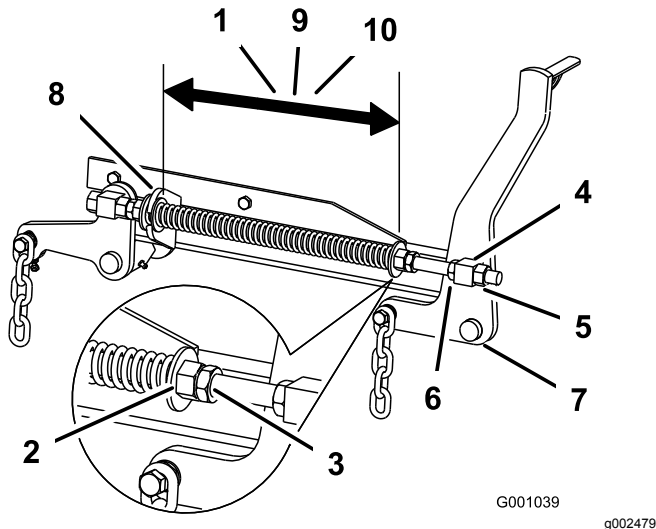

Figure 95
2. Check the distance between the 2 large washers, it needs to be 28.2 cm (11-1/8 inches) for 52 inch mower decks, 26.7 cm (10-1/2 inches) for 60 inch mower decks, or 29.2 cm (11-1/2 inches) for 72 inch mower decks (Figure 95).
3. Adjust this distance, by loosening the spring-jam nut and turning the nut in front of each spring (Figure 95).
4. Lock the nut into position by tightening the spring-jam nut (Figure 95).